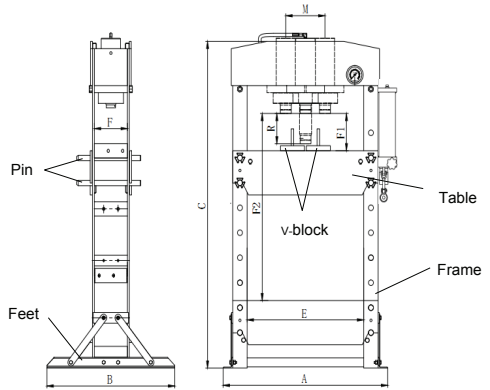

Fig.02
- The feet are fixed to the chassis using the screws provided, and the tables to the two B axes of Fig.02 which have previously been positioned on the outlets of the columns according to the chosen work height Fig.02. Attach the base section and support to left and right connecting plate using bolt ,washer, lock washer and nut.
- During moving the machine, please make sure to use the proper lifting equipment and follow the instructions as shows Fig.02.
⚠ WARNING Ensure table at proper position and lock the table by pins firmly. Place the V-block on table, Fig.02, then insert workpiece onto the V-block.